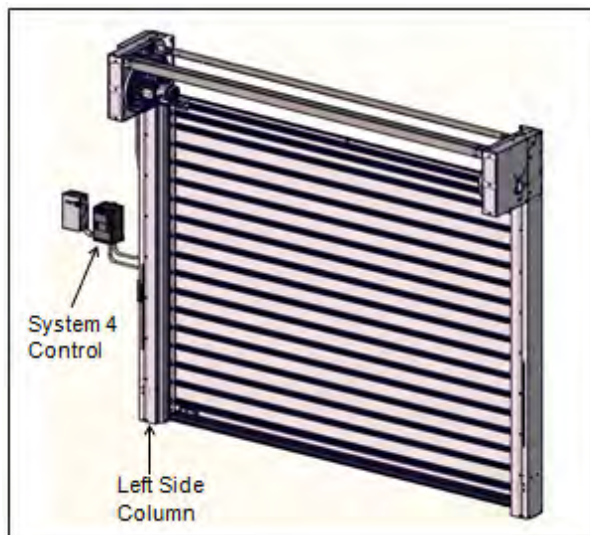

Figure 76
3. To ensure the correct parts are shipped, please include the serial number of your door with the order. The serial number decal is located inside the left side column and should match the serial number decal on or inside the control panel. (See Figure 76.)